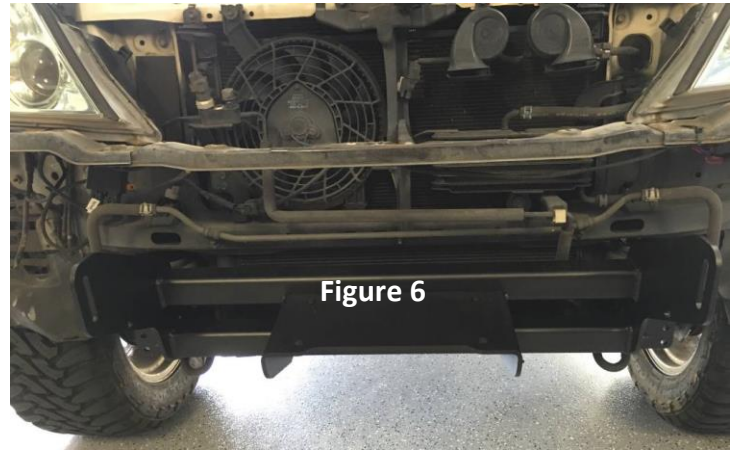

Figure 6
9. Install winch mount reusing the factory 14mm nuts removed during step 6 (Figure 6). Keep the nuts snug but not tight for now as you will need to adjust side to side alignment and line up the Side Support Plates with the winch mounting system.